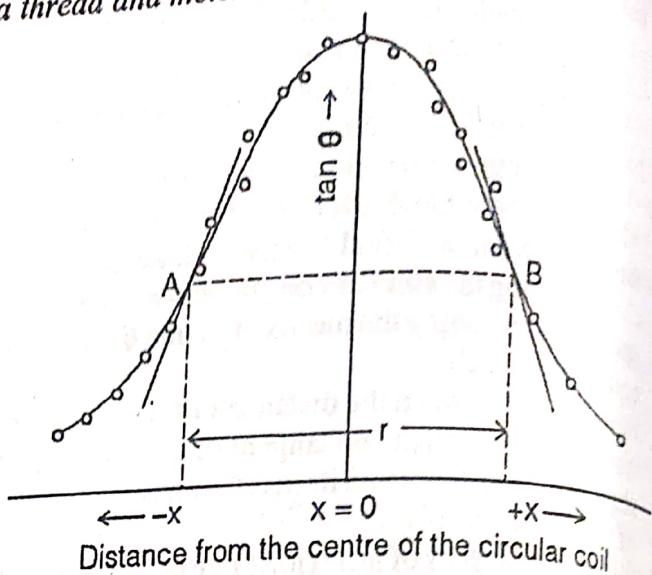

Fig. 9.3
- Plot a graph between the distance  $x$  of the compass needle box from the centre of the coil or from the one end of the bench and tangent of deflection of magnetic needle, that is,  $\tan \theta$ . The resulting curve shall be symmetrical and its maximum value shall correspond to the position of the needle at the centre of the coil itself (Fig. 9.3).
**Graph :** Plot a graph taking the distances  $x$  of the needle from the centre of the coil towards one end of the bench on X-axis by choosing a suitable scale and corresponding value of  $\tan \theta$  on Y-axis. The resulting curve shown in fig. 9.3 has two symmetric branches. Find out the points of inflexion A and B on the curve by drawing tangents on the curve. The tangent just above and just below the points of inflexion lie on opposite side of the curve. This situation will not occur for any other point on the curve.